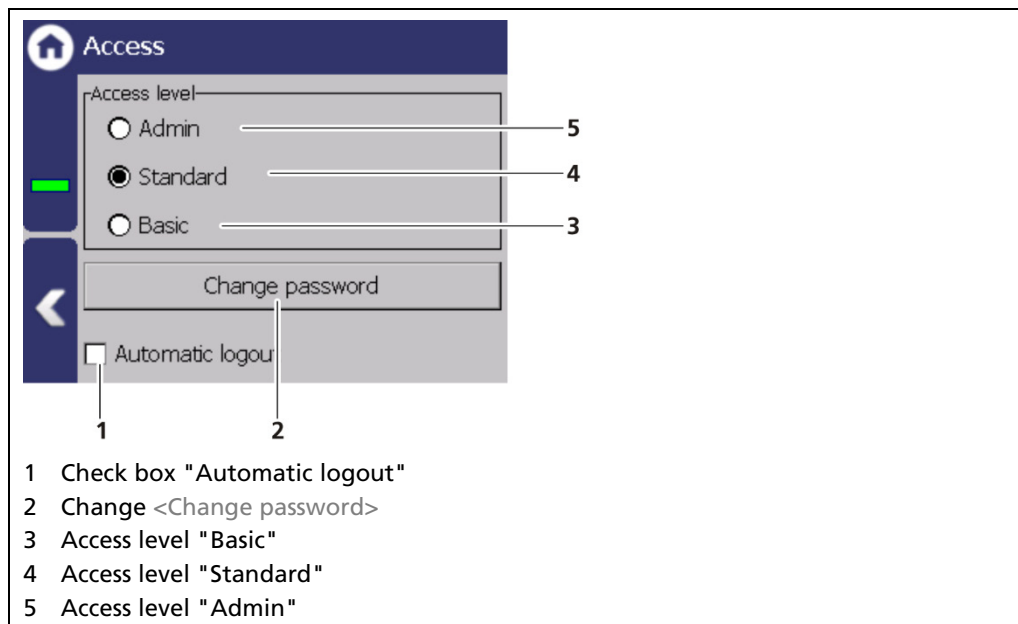

Fig. 25 Access
4. The USB storage device is recognized by the system after a few seconds and the <CU Update> (Fig. 25, item 1) button can be clicked.
- ▶ The selection window "update file" (Fig. 25, item 6) opens.
5. Select the appropriate file and click on the button <CU Update> (Fig. 25, item 1). Confirm with <Yes>.
4. The USB storage device is recognized by the system after a few seconds and the <MU Update> (Fig. 25, item 2) button can be clicked.
5. Select the appropriate file and click on the button <MU Update> (Fig. 25, item 2). Confirm with <Yes>.